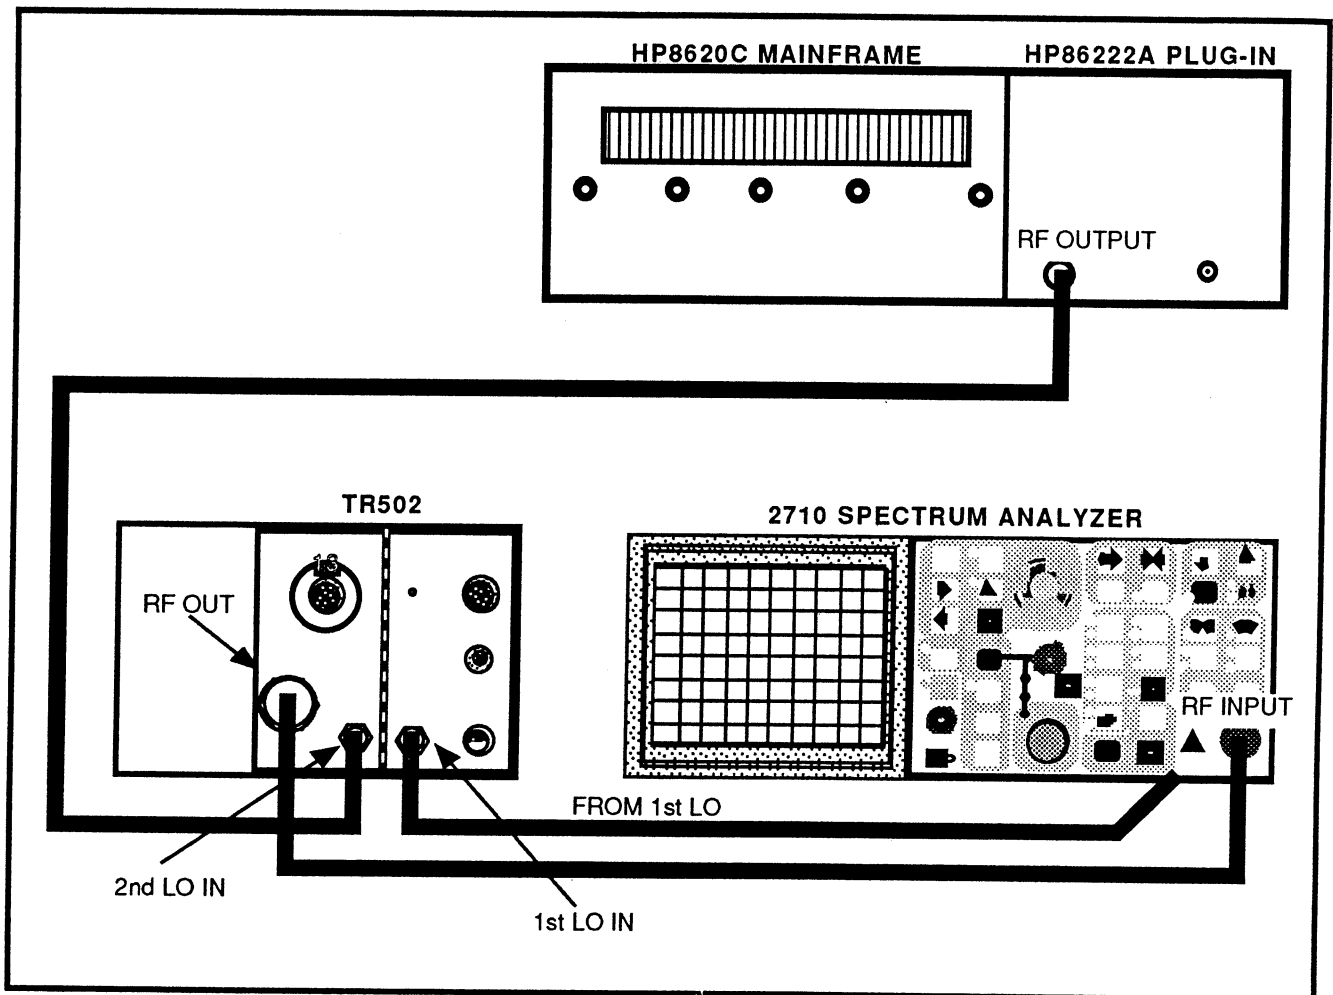

Figure 4-10. Band leveling test equipment setup.
- (1) Sweep Generator
- (2) N male to N male coaxial cable
- (3) N male to SMA male adapter
- (4) 50 Ω Semi-rigid cable
- (5) SMA female to female adapter
- (6) Tracking Generator
- a. Connect the test equipment as shown in Figure 4-10. The semi-rigid cable and SMA female-to-female adapter are used to access J300 (1st LO) on the 1st LO Buffer Amplifier, but are not needed if Option 15 is installed. The 50 Ω terminator at J300 will have to be removed for this adjustment.